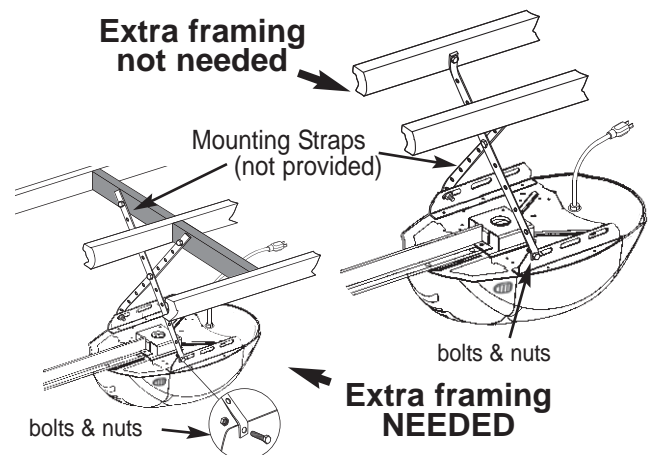

**FIG. 2-5** Rail mounting to header bracket.
- Attach rail to header bracket using clevis pin and cotter pin (**Fig. 2-5**).